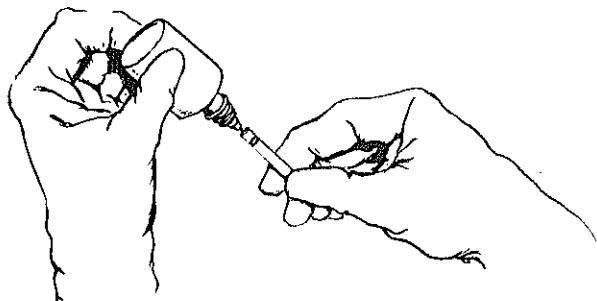

Figure 3-4 (U). Adding reagent to detector tube (U).
d. Add reagents dropwise to the color coded end of a detector tube by gently squeezing the sides of the bottle between thumb and forefinger (fig. 3-4). To prevent accidental contamination of the reagent, remove the tip from the detector tube before releasing the pressure on the side of the bottle.